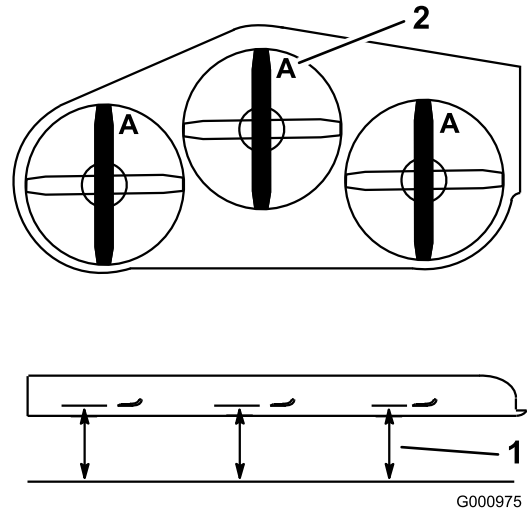

**Figure 78**
1. Inspect the cutting edges (Figure 78).
4. If you notice any cracks, wear, or a slot forming in this area, immediately install a new blade (Figure 78).